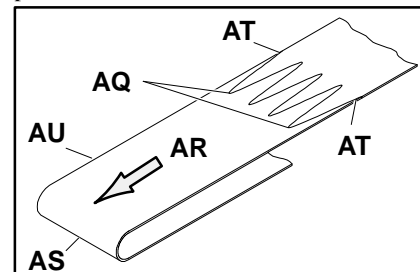

Figure 17: Replacement Belt Orientation Detail
Orient the replacement belt (AU) so the belt splice leading fingers (AQ of Figure 17) point in the direction of belt travel (AR) towards the bottom wiper end (AS) of the conveyor and the outside fingers (AT) are positioned as shown.